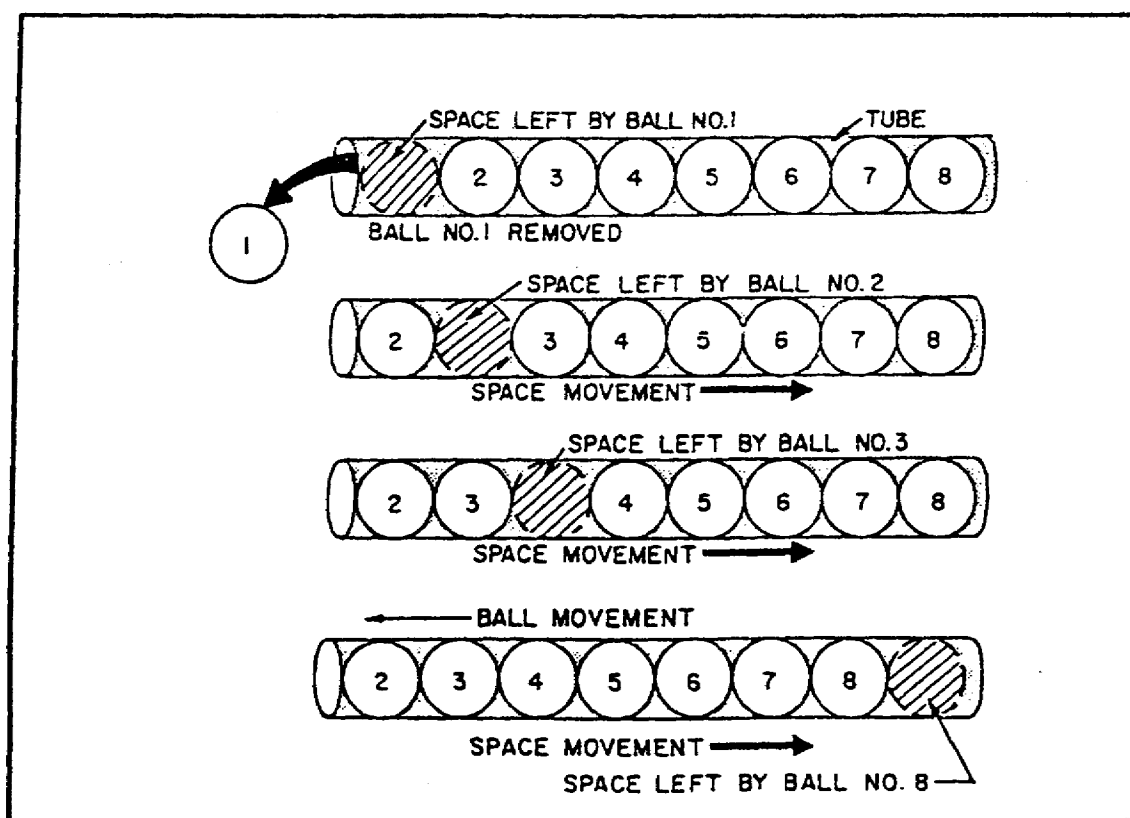

FIGURE 74. ANALOGY OF HOLE FLOW.
d. *Conduction Process.* The conduction process in a semiconductor is accomplished by two different types of current flow: HOLE FLOW and ELECTRON FLOW. Hole flow is very similar to electron flow except that holes (positive charges) move toward a negative potential and in an opposite direction to that of the electrons. In an INTRINSIC semiconductor (one which does not contain any impurities), the number of holes always equals the number of conducting electrons (figure 74 on the following page).